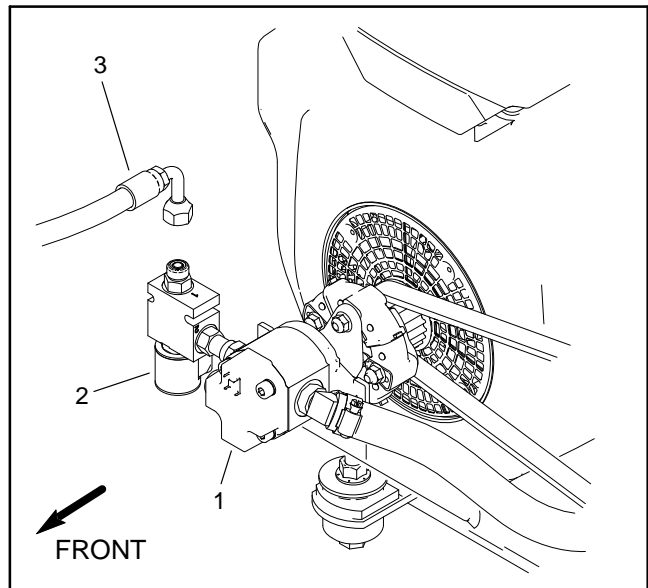

Figure 16
4. Clean hose fitting and disconnect pressure hose from the top of the hydraulics enable valve (Fig. 16).